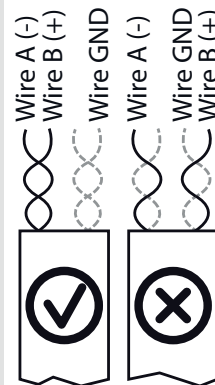

Figure 24: Assignment of twisted-pair wires
-  Observe the wire pairing when connecting DATA+ and DATA- (see Figure 24).